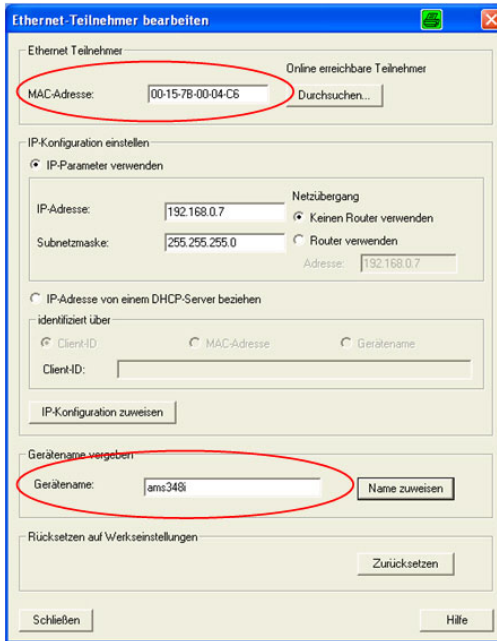

Figure 9.11: Linking of the device name to the MAC ID of the participant
- Assignment of MAC address - IP address -individual device name ((see figure 9.11))